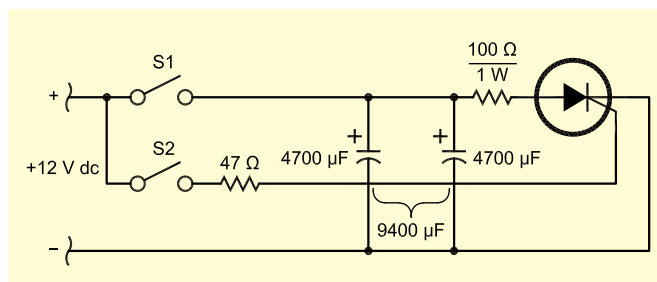

Figure 2—A simple charge-dumping circuit. The capacitor discharges through the load resistor and the SCR when a current pulse through the gate turns the SCR ON.
- Construct the circuit of Figure 2. Don't use your prototype board; either solder the components together or use a terminal or barrier strip. A clip lead or jumper wire can be used for the switches.